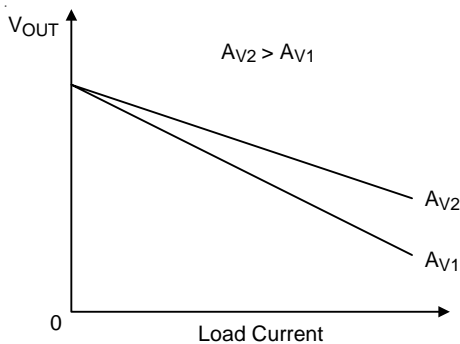

Figure 9. Error Amplifier gain (A_V) Influence on Load Line
where A_I is the internal current sense amplifier gain 10V/V. R_{SENSE} is the current sense resistor. Figure 9 shows the error amplifier gain (A_V) influence on V_{OUT} accuracy according to equation (2). In general, the DCR of the inductor is adopted as R_{SENSE} to achieve lossless current sensing method. R_{DROOP} is the equivalent load line resistance as well as the desired static output impedance.